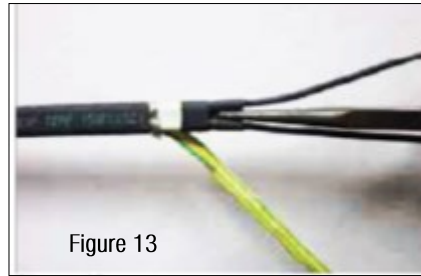

Figure 13
**Step 13.** While tube is still hot, pinch tube with pliers, between wires, and hold for 10 seconds to ensure seal. See Figures 13.